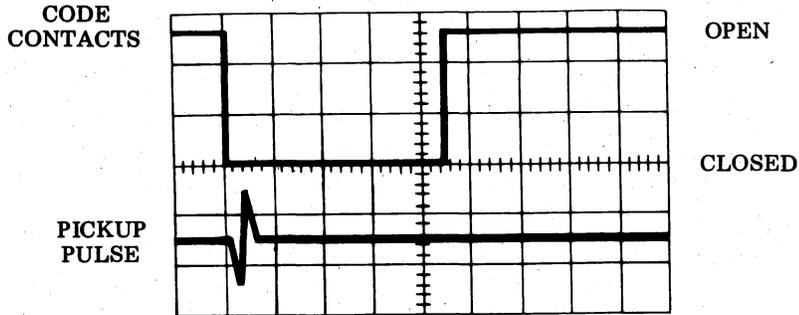

Figure 18 - Scope Trace of Pickup Pulse and Contact Closure
3.19 The first pulse occurs at the beginning of code contact closure and the second pulse occurs 90 degrees later, approximately 150 degrees before the sensing and feed cam followers are on the high part of their cams (Figure 18).